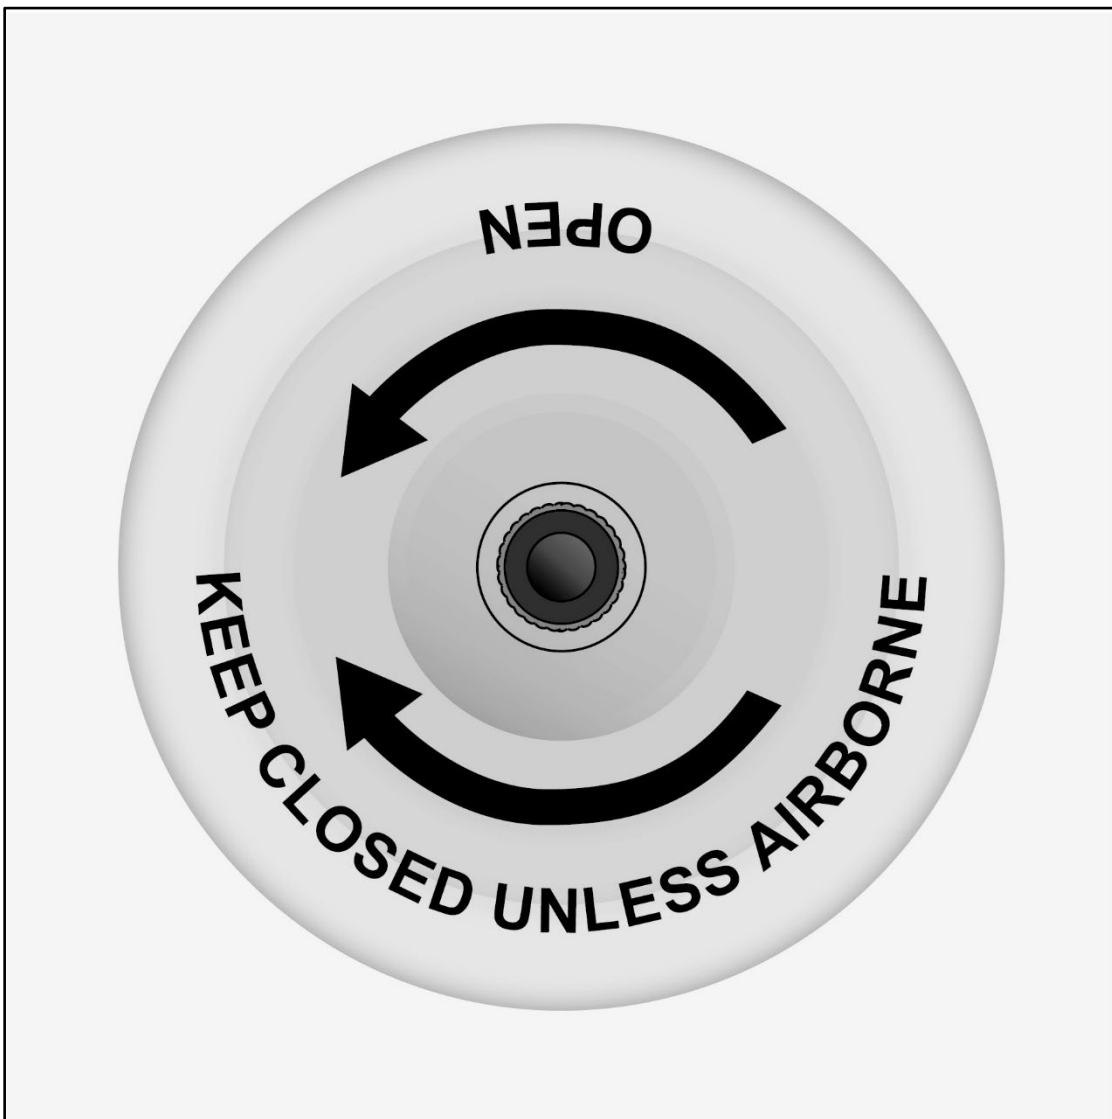

Figure 2-3. Pressure equalization valve
2-15. Extreme cold-weather boots (NSN 8430-00-655-5535) are also called white vapor barrier (VB) boots, or *bunny boots*. They are rated from 19°F to –60°F (–7°C to –51°C) and are used in cold-dry environments. Some VB boots have a pressure relief valve. The valve is used to equalize air pressure. When rapidly changing altitude, briefly open the valve to equalize pressure and then close it. (See figure 2-3.)